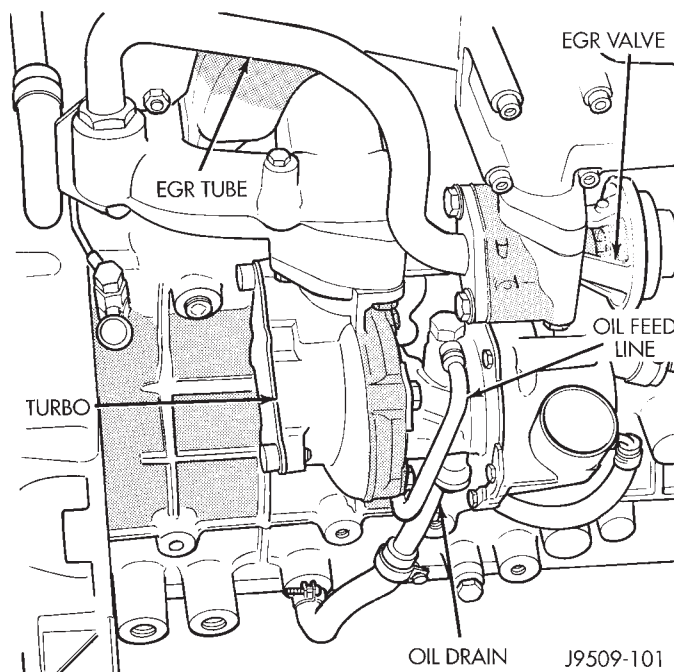
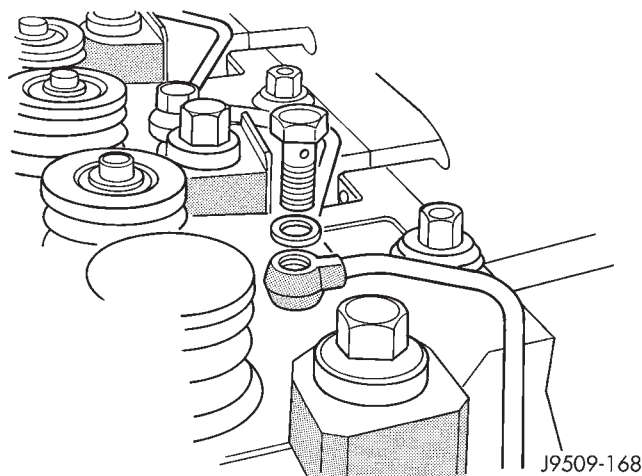

Fig. 17 Turbocharger
Fig. 18 Rocker Arm Oil Feed Lines
- (14) Disconnect EGR tube from EGR valve.
- (15) Remove EGR valve
- (16) Remove exhaust heat shield from exhaust manifold.
- (17) Remove exhaust heat shield from down pipe.
- (18) Remove exhaust down pipe from turbocharger (Fig. 17).
- (19) Disconnect oil feed line from turbocharger.
- (20) Disconnect oil drain line from turbocharger.
- (21) Remove Exhaust manifold (refer to Group 11, Exhaust System and Intake Manifold).
- (22) Remove Intake manifold (refer to Group 11, Exhaust System and Intake Manifold).
- (23) Remove oil feed line for rocker arm assemblies (Fig. 18).